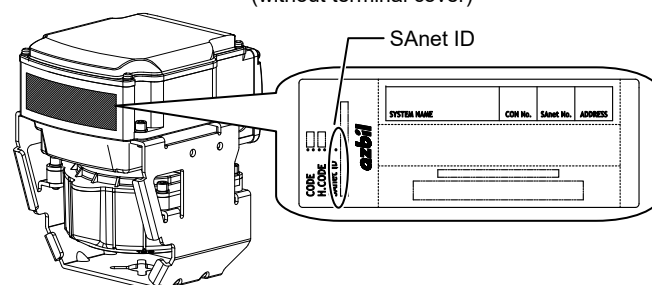

Figure 11. SAnet ID on the product code label
- With Data Setter or PC-MMI, enter the SAnet ID (on the product code label) and address number to set. The product code label is attached on the side surface of the actuator, as shown in Fig. 11.